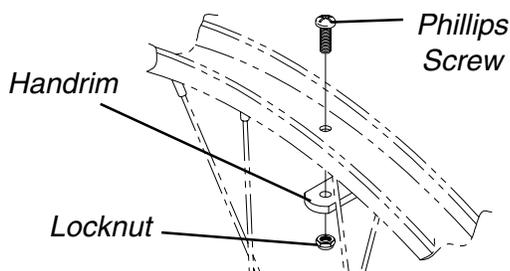

FIGURE 6 - HANDRIM REPLACEMENT
**HANDRIM REPLACEMENT (FIGURE 6)**